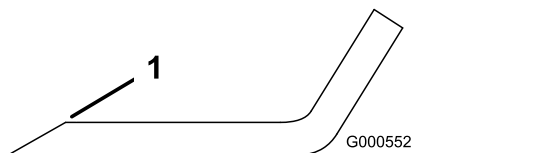

Figure 112
1. Use a file to sharpen the cutting edge at both ends of the blade (Figure 112).
Note: If the blade is not balanced, file some metal off the end of the sail area only (Figure 112).